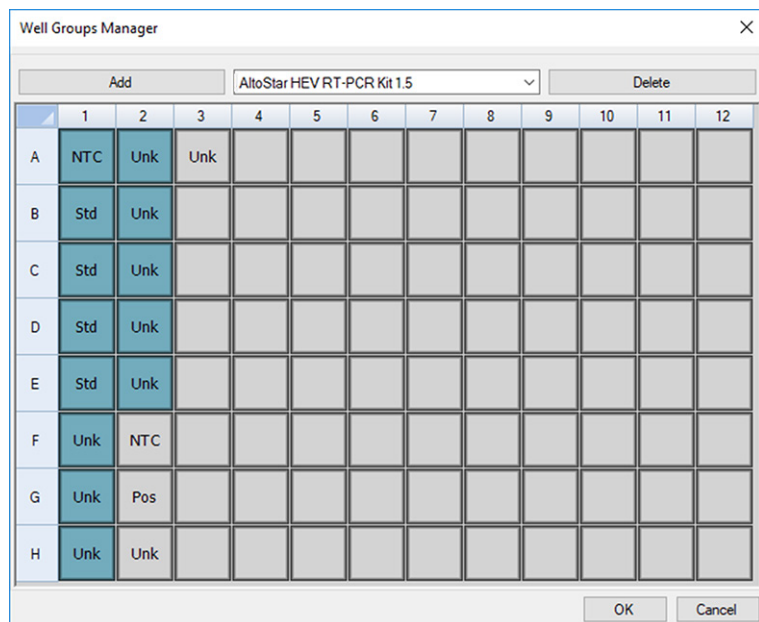

Figure 2: Well Groups Manager dialog
2. In the Plate Editor dialog click **Well Groups...** in the tool bar. The Well Groups Manager dialog is displayed (see figure 2).
5. Select all wells in the PCR plate area that belong to the first assay (see figure 2). The wells belonging to an individual assay can be identified in the Plate Editor dialog by the entry in the **Biological Set** field.